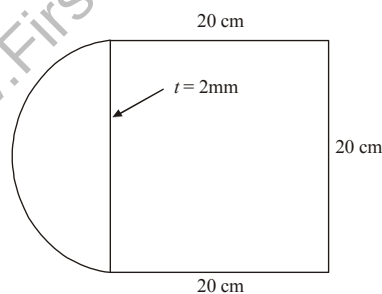

Fig. 3
5. The 2-cell tube indicated in Figure.3 is subjected to a clockwise twisting moment of 1000 Ncm. Determine the shear flows in the walls of the tube. All other wall thickness is 1 mm.